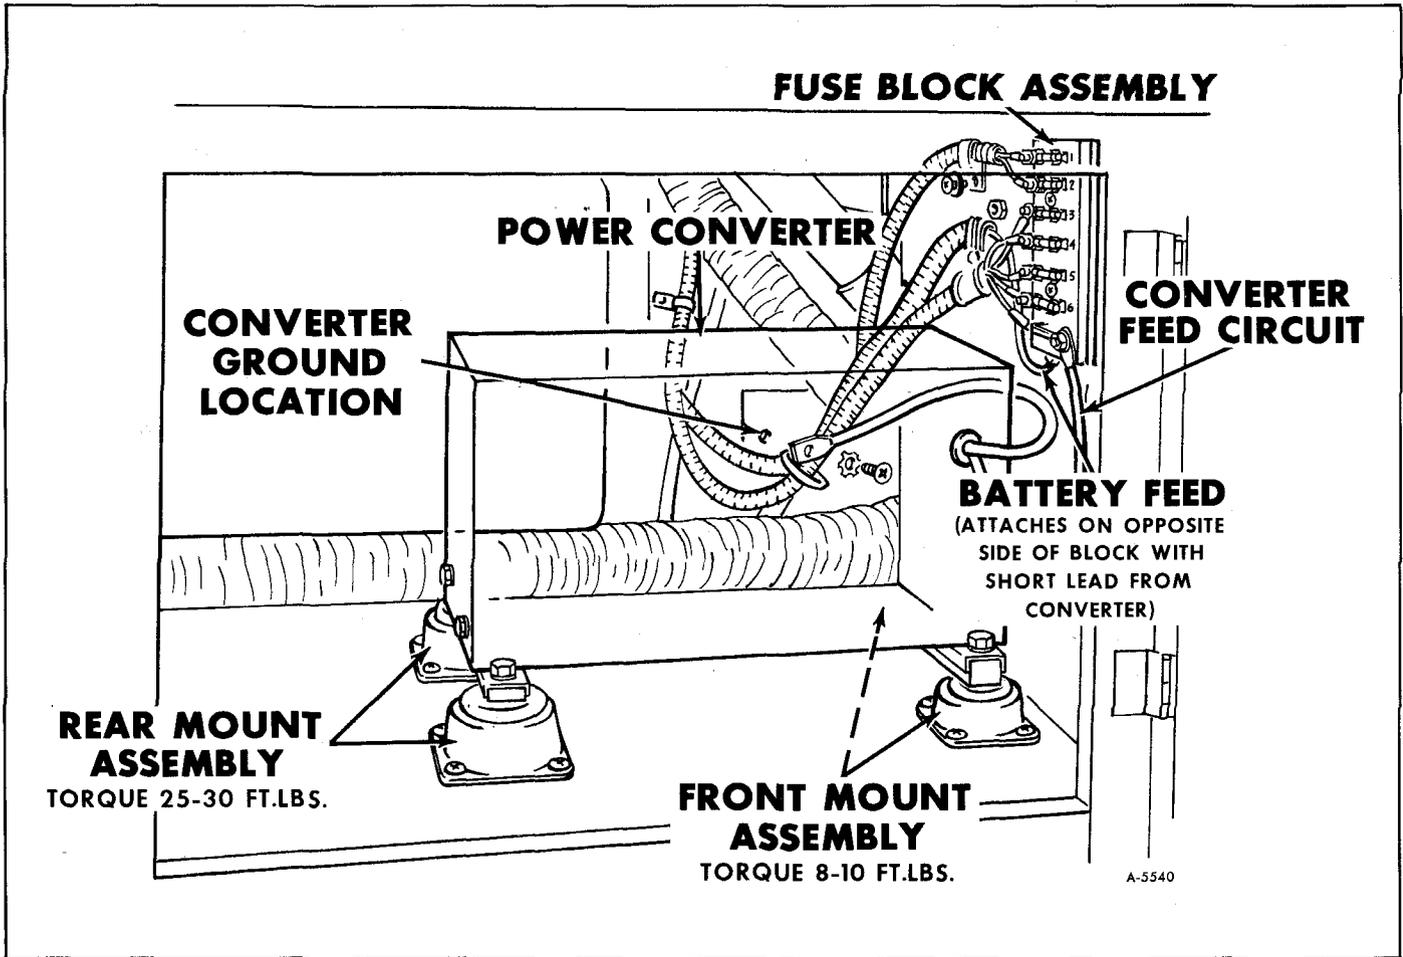

Figure 9—Converter Installation (Model ZEO6581)
2. Disconnect converter lead at fuse panel. (See figure 9.)
3. Remove converter mounting bolts (4). (Refer to figure 9.) Pull converter forward (or
panel. (See figure 9.) Lift out converter.
6. Converter installation is reverse of removal procedure. Be sure to attach converter ground wire securely before converter is placed in position. Torque mounting bolts to specification (see figure 9).